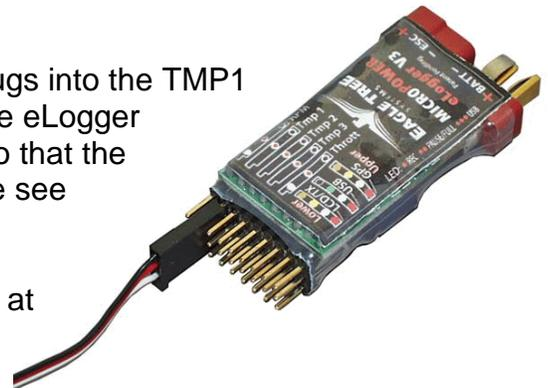

Figure 3, cable installation
5. The buffer’s 3-pin cable plugs into the TMP1 connector on the EagleTree eLogger module. Orient the cable so that the black wire is on top. Please see Figure 3.